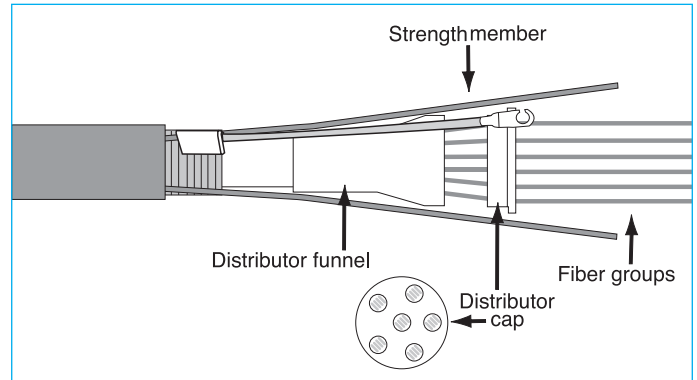

Figure 7.
7.3.9 Place one fiber group in each hole of the distributor cap. (Figure 7)